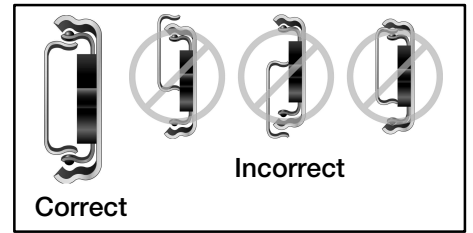

Figure 19
6. Replace the drawer by aligning it to the drawer slides. Ensure slides of pedestal and drawer are aligned correctly (see Figure 19).